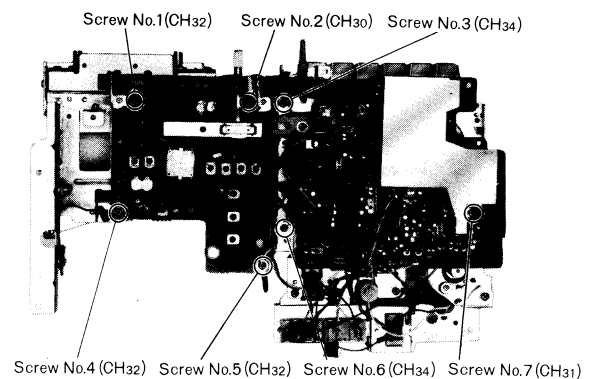

Fig. 3
2. Remove three (3) PC Board and tape deck screws, nos. 3, 6 & 7, as illustrated in fig. 3.
3. Remove four (4) PC Board screws, nos. 1, 2, 4 & 5, as illustrated in fig. 3.